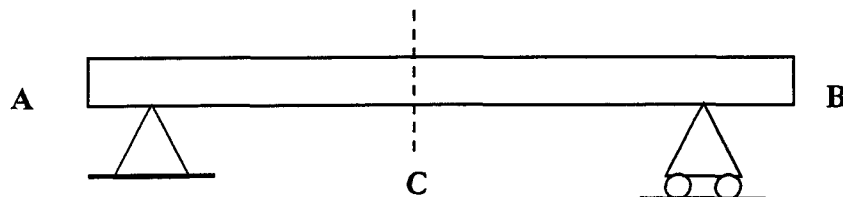

Figure 1.0/Rajah 1.0
- (c) Explain, how to evaluate internal forces in the structure, based on simply supported beam at one end on a hinged support and at the other on a roller support, shown in **Figure 1.0**.